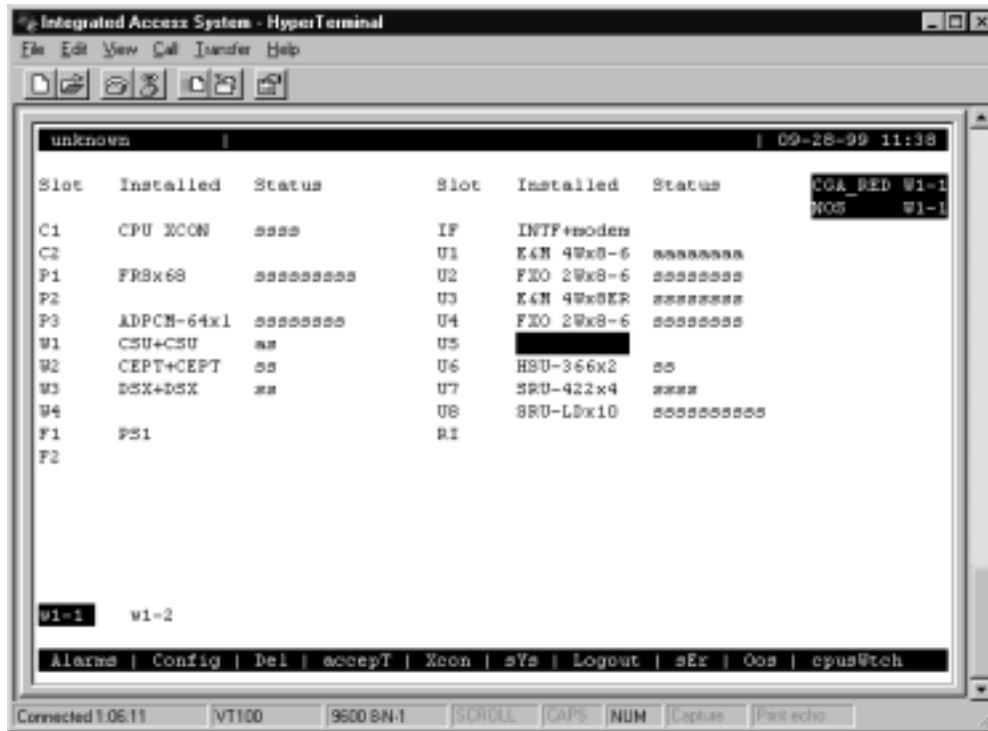

Figure 4-31. Typical WAN Card Selection
5. Select the WAN port to which you want to assign the voice cards (W1-1 or W1-2), as shown in Figure 4-31.